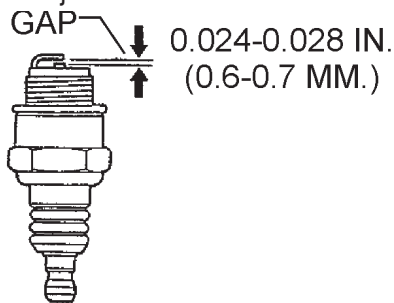

Figure 20. Spark Plug Gap
3. Remove and clean the spark plug (Figure 20), then adjust the spark gap to 0.028~0.031 inch (0.6~0.7 mm). This unit has electronic ignition, which requires no adjustments.